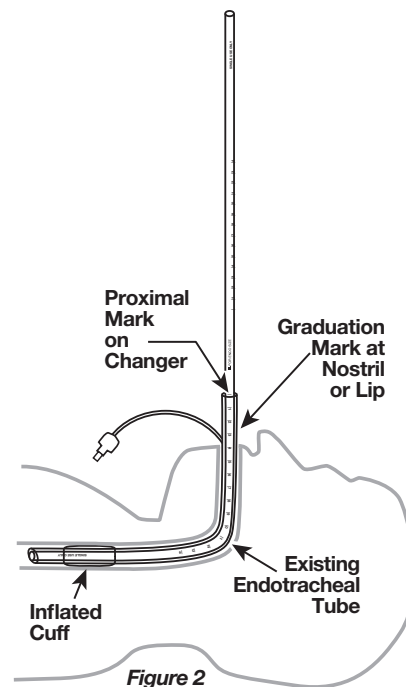

Figure 2
5. Determine the **GUIDE MARK** at the lip or nostril (Figure 1, Figure 2). During the tube exchange process, this marked position must be maintained as closely as possible. Special care must be taken to prevent further advancement of the Changer into the patient.